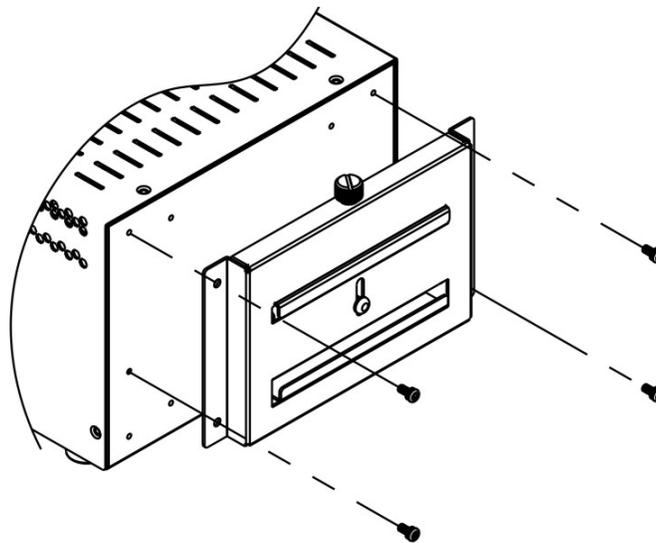

Figure 4-9: DIN Rail Mounting Bracket
Step 7: Attach the DIN rail mounting bracket to the bottom panel of the embedded system. Secure the bracket to the embedded system with the supplied retention screws (**Figure 4-9**).